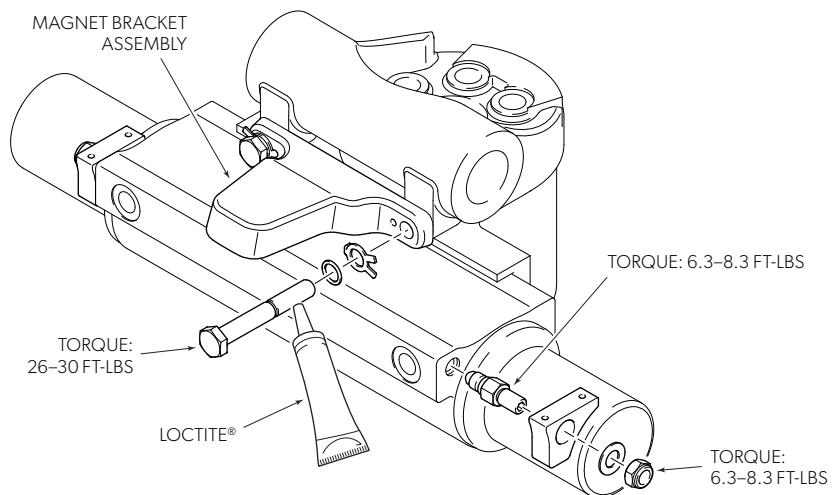

Figure 2. HA6830 Assembly and HA5505 mounting brackets.
1. Liberally grease washers (items 2 and 3) using Mercury high performance grease, Part # 8M0071842 or equivalent.
2. Insert the M10 bolts, washers and lock washers (items 4, 3, and 2) into the magnet bracket assembly (item 1), and apply the provided Loctite® to the first four threads of each M10 fastener as shown in figure 2.
3. Torque the two M10 bolts to 26–30 ft-lbs being careful to engage the pre-bent tabs of the lock washers into item 1 pilot holes as shown in figure 2.
4. Hand thread the two bleed plugs (item 5) into either end of the Verado cylinder body.
5. Using a deep socket, torque both bleed plugs to 6–8 ft-lbs as shown in figure 2.
6. Place one of the SmartStick mounts (item 6) on each installed bleed plug, orientation shown in figure 2.
7. Place a 3/8 ID flat washer (item 7) and a Nyloc® nut (item 8) on each of the bleed plugs on either end of the Verado cylinder, then torque the nuts to 6–8 ft-lbs as shown in figure 2. Do not overtighten.
For users with Mercury Verado engines generation 1–4. In Step 2 replace M10 bolts and hardware with M8 bolts and hardware in HA6833 kit. Apply Loctite® to first four threads as shown in figure 2.